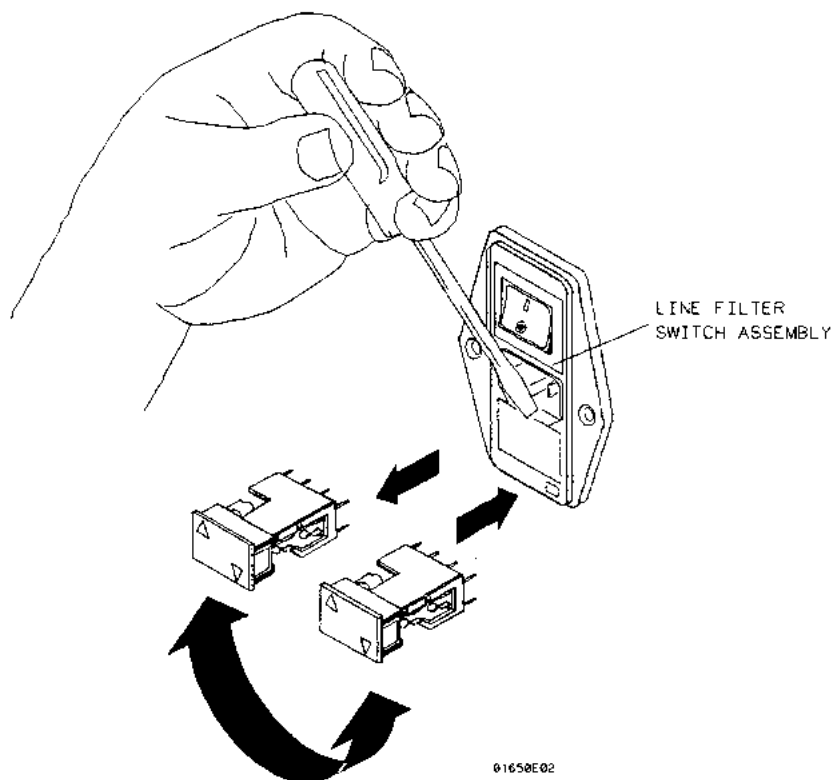

Figure 2-1. Removing the Fuse Module
2. Remove the fuse module by carefully prying at the top center of the module until you can grasp it and pull it out by hand (see figure 2-1).